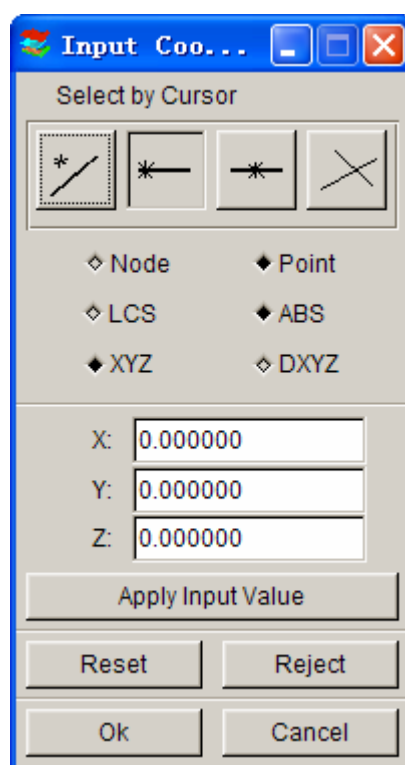

Figure 5.3.15 Select Node/Point
- If NODE/POINT is selected, a new dialog window will be displayed as in Figure 5.3.15. This window prompts the user to select the appropriate NODES/POINTS and also provides an option to define the orientation vector.